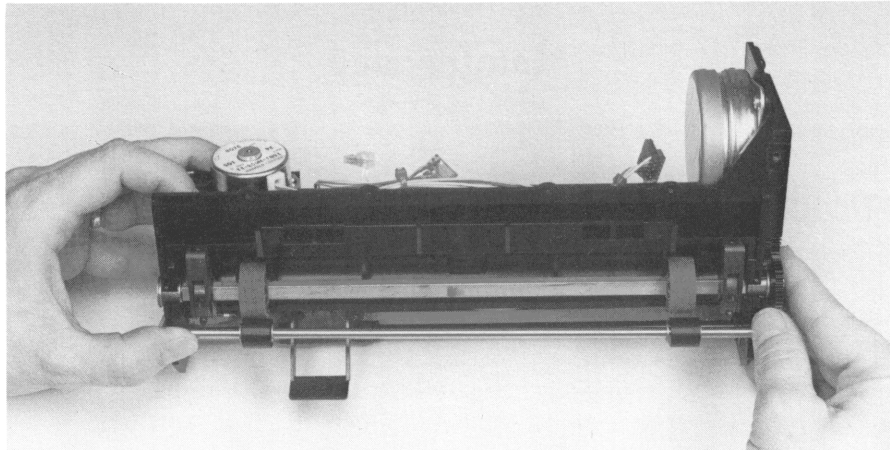

Figure 3-2, Bail Arm Adjustment, Right Side
1. Apply downward pressure on the left side of the bail arm assembly while lifting the right side of the bail. See Figure 3-2. The right pinch roller should lift a short distance ($\sim \frac{1}{8}$ to $\frac{1}{4}$ inch) off the grit wheel before meeting heavy resistance.